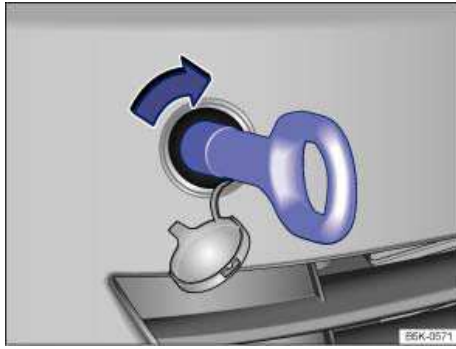

Fig. 185 In the right front bumper: Screwing in the towing eye.
There is a threaded hole for the towing eye in the right front bumper ⇒ fig. 185.
- Screw the towing eye **clockwise** into the threaded hole as far as it will go (arrow) ⇒ fig. 185 ⇒ ⓘ.